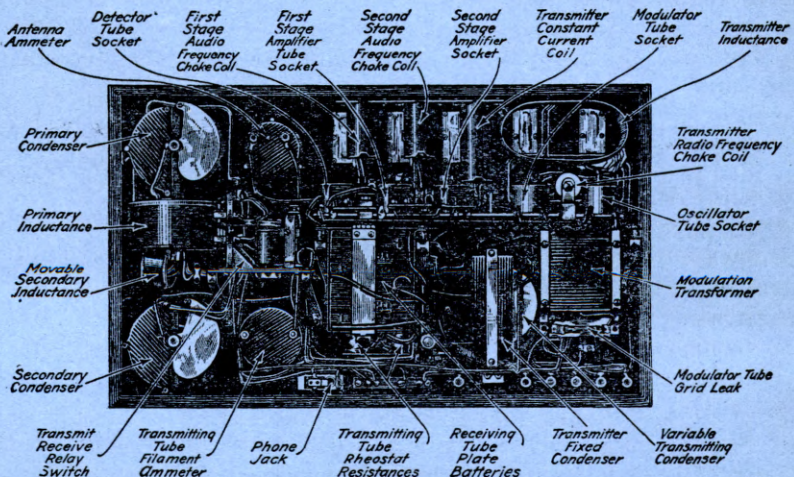

Fig. 81.—Interior of set box BC-13-A, showing parts mounted on back of panel.
4. Unfasten the hooks on the side of the set box and pull the panel forward. (See Fig. 81.) Inspect the parts in the rear of the panel carefully. Move the control knobs on front of the panel and note what moves in the rear.
- (20) *Locate the relay switch. What connections are made to the contacts on the movable arm?*
- (21) *Which is the primary receiving coil? How many taps on it?*
- (22) *Which is the secondary receiving coil? How many taps on it?*
- (23) *Locate the primary and secondary variable receiving condensers. What is the purpose of each condenser?*
- (24) *Locate the receiving grid condenser and grid leak. How are they connected in the circuit?*
- (25) *What type of tubes are used in the receiving circuit?*
- (26) *Locate the receiver-tube sockets. Which is the detector-tube socket? Which are the amplifier sockets?*
- (27) *Why is a 12-volt battery connected in the receiving filament circuit, when a VT-1 vacuum tube requires only a 4-volt battery to operate the filament?*
- (28) *What kind of coupling is used between the different stages of amplification? Locate these choke coils.*